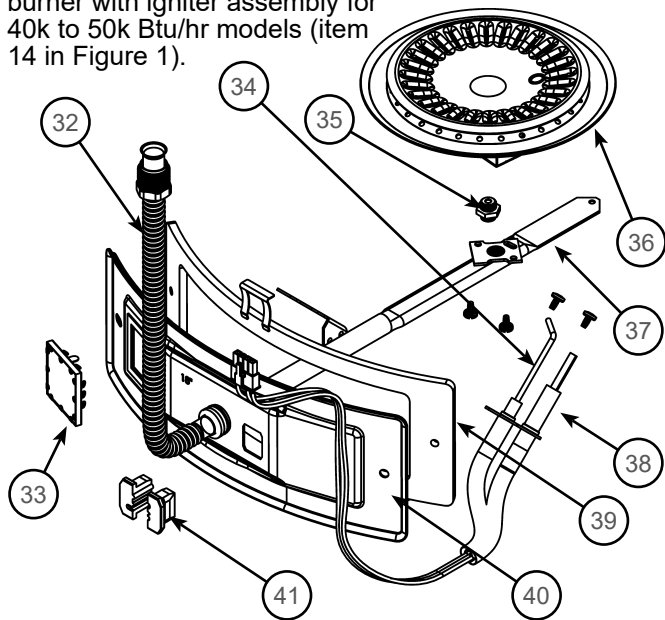
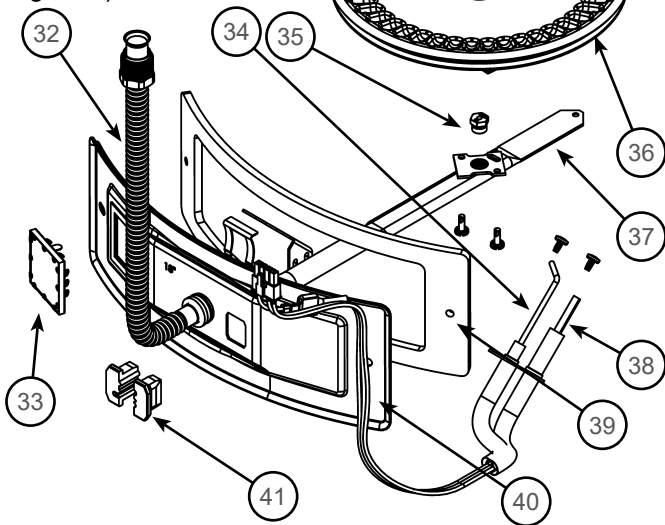
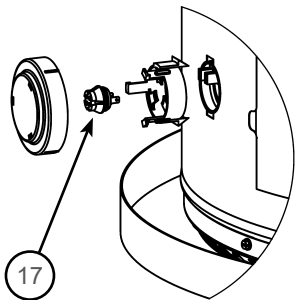
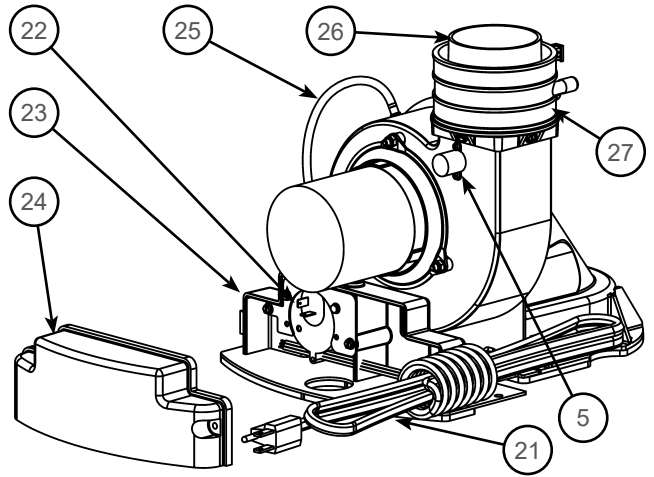

Figure 3.
Figure 4.
Figure 5.
Figure 6.
| 1 Vent Termination Elbow with Rodent Screen | 18 **Combo Heating System Return Inlet (Optional) | 35 Gas Orifice (see Figure 3 and Figure 4) |
| 2 *Vent Pipe | 19 Air Inlet Snorkel | 36 Sheet Metal Burner (see Figure 3 and Figure 4) |
| 3 *Vent Pipe Coupling (if required) | 20 **Combo Heating System Supply Outlet (Optional) | 37 Gas Manifold (see Figure 3 and Figure 4) |
| 4 *Vent Pipe Elbow (long radius) | 21 Blower with Power Cord (see also Figure 6) | 38 Hot-Surface Igniter (see Figure 3 and Figure 4) |
| 5 Blower High Limit Switch (see Figure 6) | 22 Air Switch (inside box) (see Figure 6) | 39 Manifold Door Gasket (see Figure 3 and Figure 4) |
| 6 T&P Valve | 23 Junction Box (see Figure 6) | 40 Manifold Door (see Figure 3 and Figure 4) |
| 7 Cold-Water Inlet Nipple/Diptube | 24 Junction Box Cover (see Figure 6) | 41 Two Piece Grommet With Clip (see Figure 3 and Figure 4) |
| 8 Baffle Assembly | 25 Air Tubing (see Figure 6) | 42 *Inlet Water Shut-off Valve |
| 9 * Discharge Pipe | 26 Rubber Coupling (see also Figure 6) | 43 *Gas Supply* |
| 10 Gas Control Valve/Thermostat (Honeywell) | 27 Gear Clamp (see also Figure 6) | 44 *Main Manual Gas Shut-off Valve |
| 14 Manifold Door Assembly (behind outer door) (see Figure 3 and Figure 4) | 31 ***Control Harness | 48 Rating Plate |
| 15 *Floor Drain | 32 Flexible Manifold Tube (see Figure 3 and Figure 4) | 49 *Thermal Expansion Tank (required for all closed systems) |
| 16 *Metal Drain Pan | 33 Viewport (see Figure 3 and Figure 4) | |
| 17 Flammable Vapor Sensor (under cover) (see Figure 5) | 34 Flame Sensor Rod (see Figure 3 and Figure 4) | |
This device is located on the blower (see Figure 6, item 5) and limits the maximum temperature of the blower. If the blower temperature rises above the temperature setting, the switch opens causing the heater to shut down. The switch will auto reset once the temperature drops sufficiently.
This device, located in the junction box, monitors the air pressure produced by the blower. In the event that the exhaust venting becomes blocked or sufficiently restricted, the switch will shut the heater down (see Figure 6, item 22).